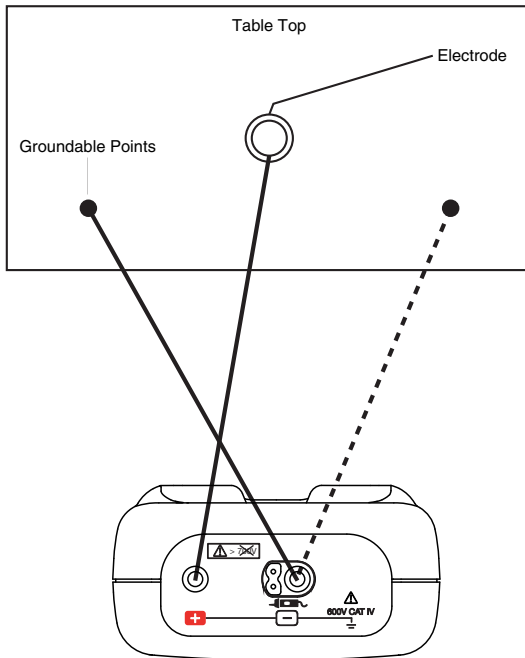

Figure 6
4. Repeat this procedure with the Model 6536 connected between one weight and a known electrical ground (Figure 6 below).
- Resistance from test electrode to a groundable point (Figure 6): Measured value:  $\leq 10,000 \text{ M}\Omega$  (10  $\text{G}\Omega$ )